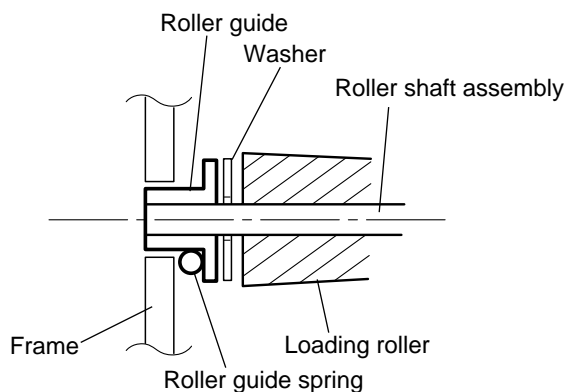

Fig.30
**CAUTION:** When reassembling, reattach the left and right roller guide springs to the lock arm rivet assembly before reattaching the lock arm rivet assembly to the chassis rivet assembly. Make sure to fit the part **h'** of the roller guide spring (L) inside of the roller guide (Refer to Fig.30).